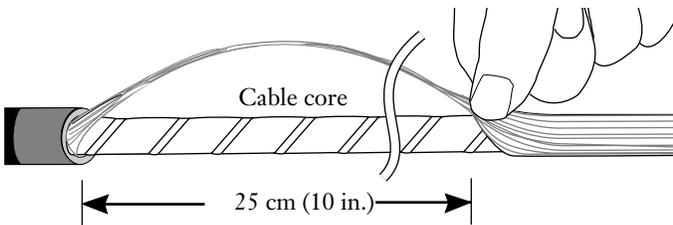

Figure 10
5.9 Starting near the tape mark, pull the yarn away from the cable core until the core is exposed for a length of 25 cm (10 in.) (Figure 10).